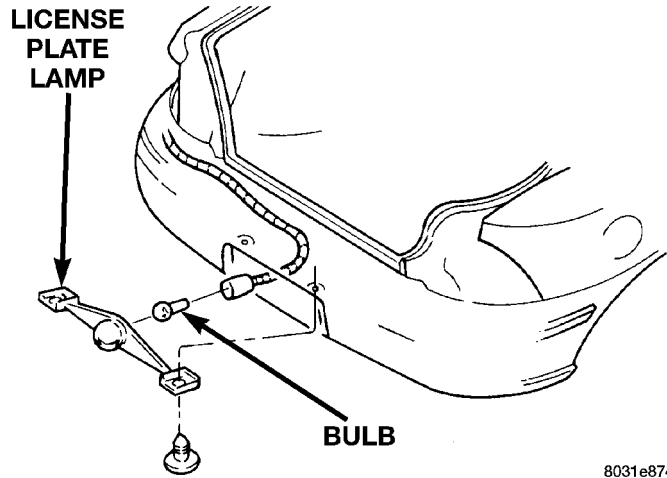

Fig. 7 License Plate Lamp
- (1) Remove screws holding license plate lamp to rear bumper fascia (Fig. 7).
- (2) Separate license plate lamp from bumper.
- (3) Remove socket and bulb from lamp.